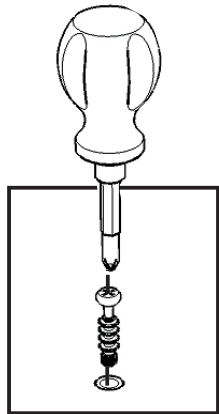

Figure 1
Insert Cam Lock Screws into the pre-drilled holes of Top (A), Side Panel (B) and (C). (See figure 1)
STEP 1 Figure 1
Attach J2 to J3 and J4 using long wood screws (4X), tighten halfway. (see Figure 1)